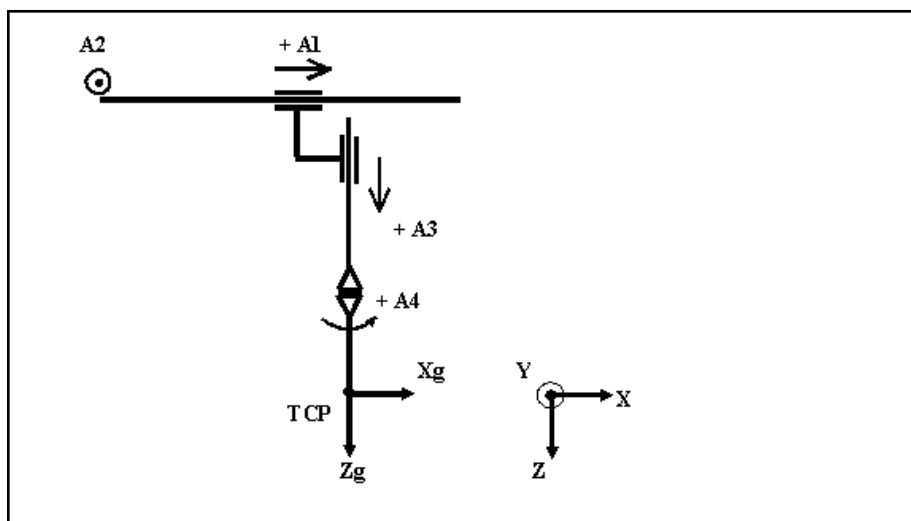

Fig. 18-2: Robot type 0, a typical X-Y-Z-C Cartesian system
- fig. 18-2 "Robot type 0, a typical X-Y-Z-C Cartesian system" on page 228.